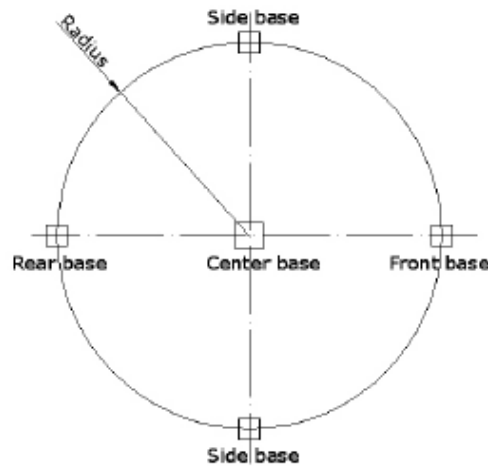

Figure 1: layout of concrete base
1. Dig the holes to follow the pattern as shown in Fig. 1. Please refer to the Table 1 for the dimensions of the holes.